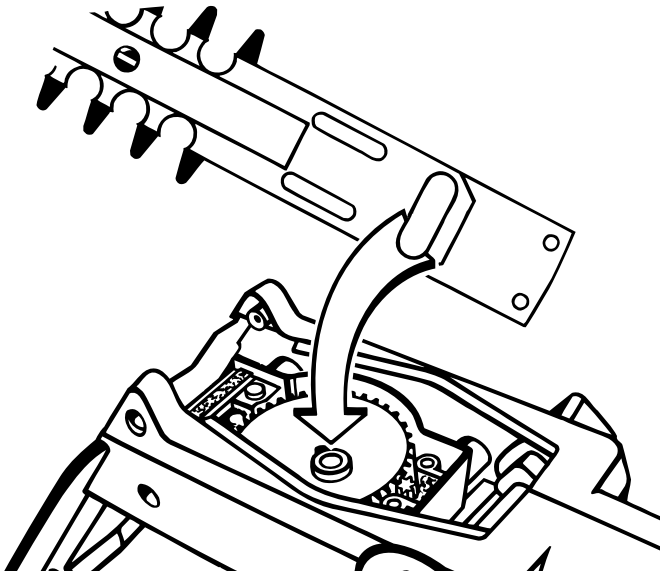

Fig. 12
6. Align slot in new blade assembly and grease cover with drive washer on gear assembly (Fig. 12).